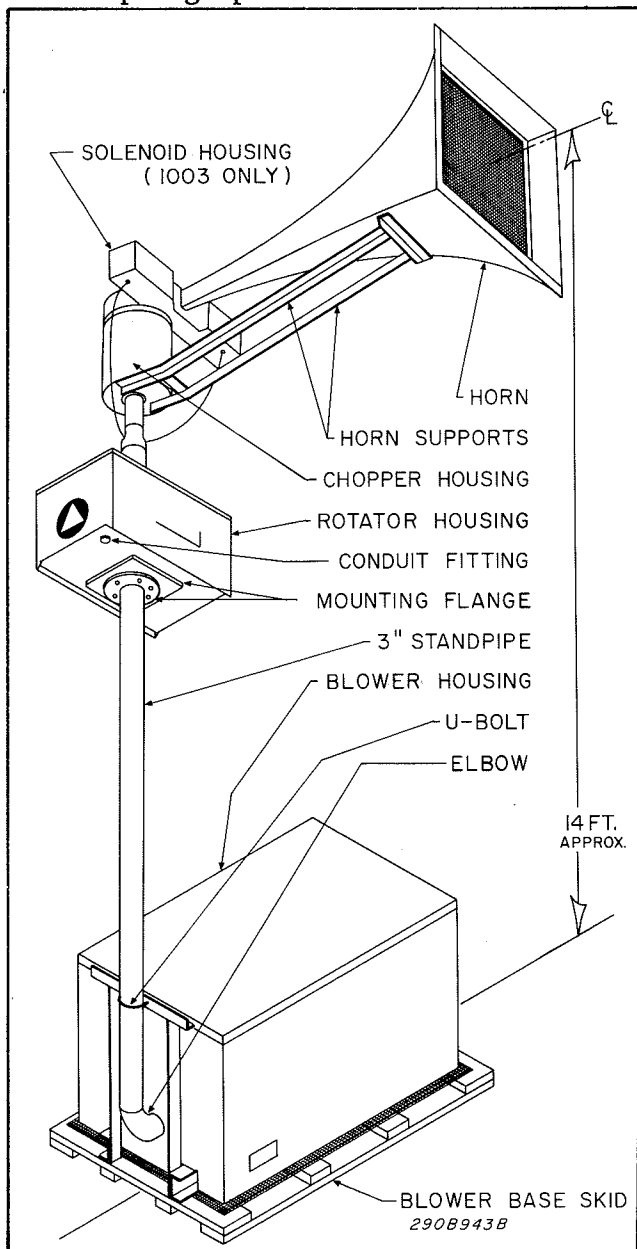
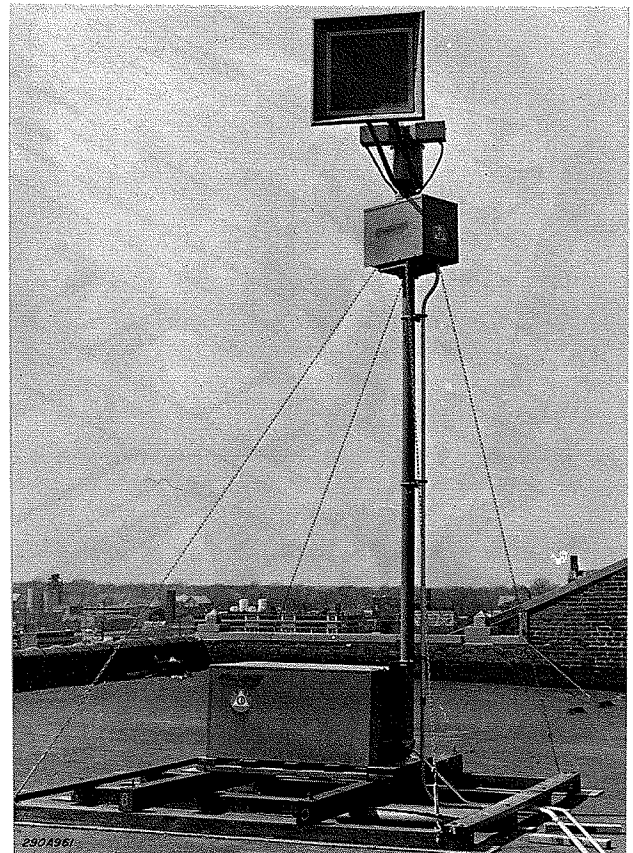
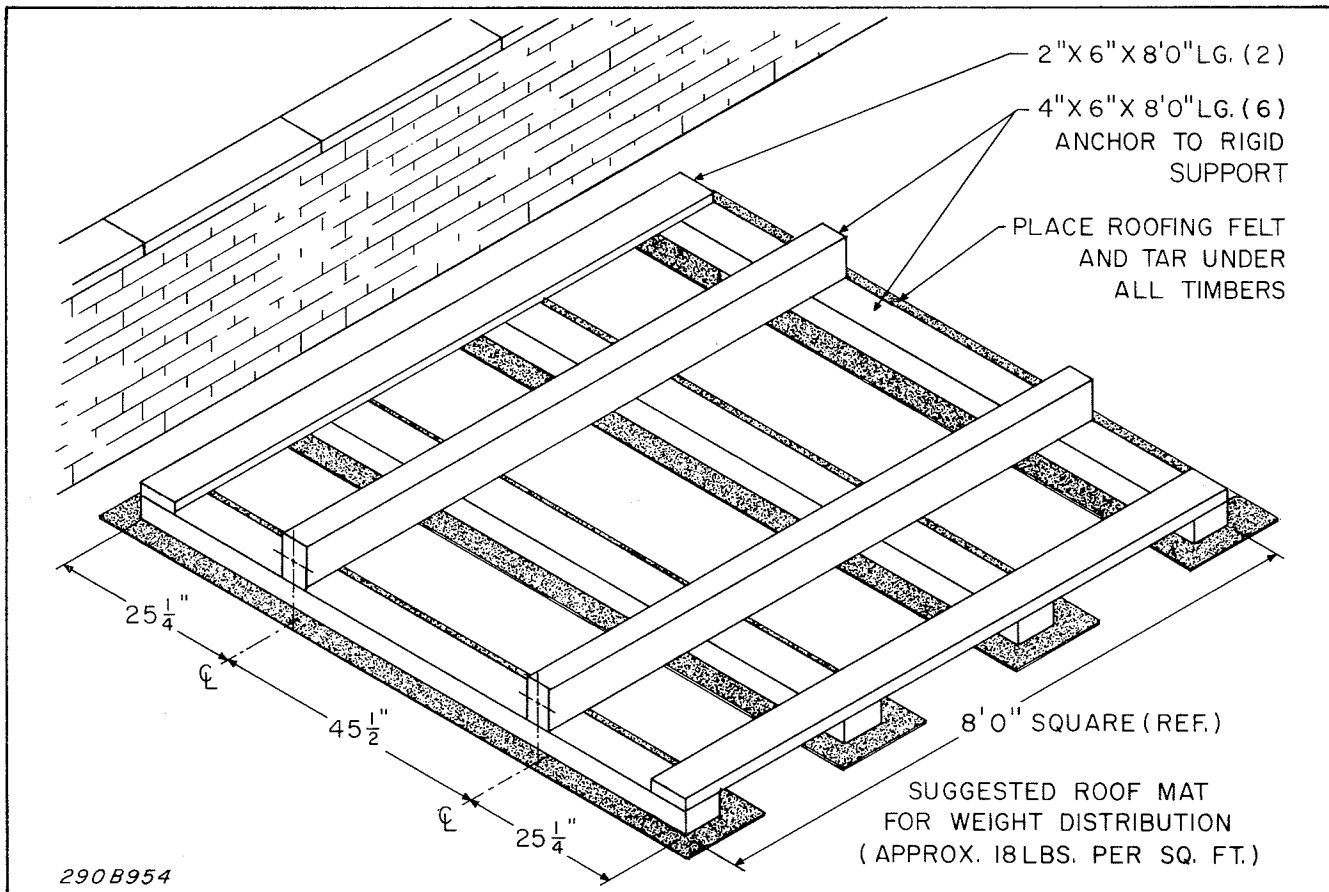

Figure 3-1. Basic Thunderbolt Installation.
Figure 3-2. Thunderbolt Roof Installation With Weight Distribution Mat.
Figure 3-3. Weight Distribution Mat Construction.
A typical basic Thunderbolt installation is shown in figure 3-1. This installation uses an 8-1/2 foot (2.6 meter) 3-inch, Schedule 40, user-supplied standpipe, a user-supplied 3" coupling, and the 18" (45cm) long standpipe adapter (supplied). When this 10 foot (3.05m) standpipe is installed, the centerline of the horn (ϕ in figure 3-1) is approximately 14 feet (4.3 meters) above the mounting surface. Add additional 3-inch, Schedule 40 pipe when more than 14 feet of horn elevation is required. If additional 3-inch Schedule 40 pipe is required to increase the standpipe length, always install the standpipe adapter at the end of the pipe closest to the Rotator and Chopper Assemblies. When the standpipe is 10 feet or more in length, use guy wires or chains to stabilize the Rotator and Chopper Assemblies (see figure 3-2). Installations like those shown in figures 3-1 and 3-2 are practical when the installation site is on a flat-roofed building.
In the installation shown in figure 3-2, the siren is mounted on a weight distribution mat. This mat is required when the siren mounting surface is unable to support weights in excess of 88 pounds per square foot (430kg per square meter). Therefore, if the mounting surface cannot support more than 88 pounds per square foot (430 kg per sq. m.), construct the weight distribution mat shown in figure 3-3. This mat distributes the siren weight to approximately 18 pounds per square foot (88kg per square meter).
To install the siren as shown in figure 3-1 or 3-2, proceed as follows:
1. If necessary, construct the weight distribution mat shown in figure 3-3. Locate the mat at the installation site.